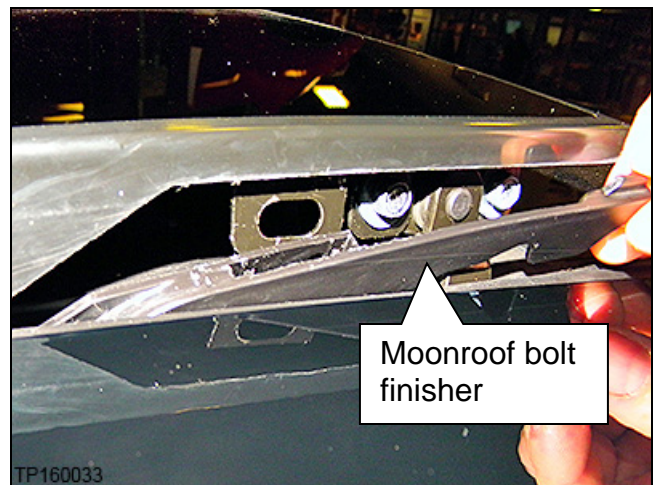

Figure 45
- g. Push Moonroof bolt finisher down and remove from vehicle (Figure 45).